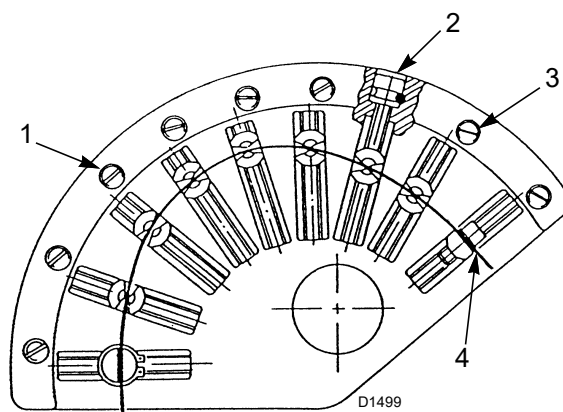

Fig. 26
The starting profile of cam 1)(Fig. 26) must be progressively adjusted by turning screws 2)(Fig. 26).
Key (Fig. 26)
For better adjustment repeatability, take care to stop the rotation of the cam unit when the upper bearing that slides on the profile 4)(Fig. 26 on page 25) is aligned with one of the adjustment screws 2).
turn the adjustment screws 2)(Fig. 26 on page 25) after having loosened the screws 3).
With the optimal adjustment obtained, remember to lock the adjustment screws of the cam profiles by means of screws 3)(Fig. 26 on page 25).
- 80s The servomotor rotates to the left up to the angle set on the cam 2)(Fig. 26 on page 25).